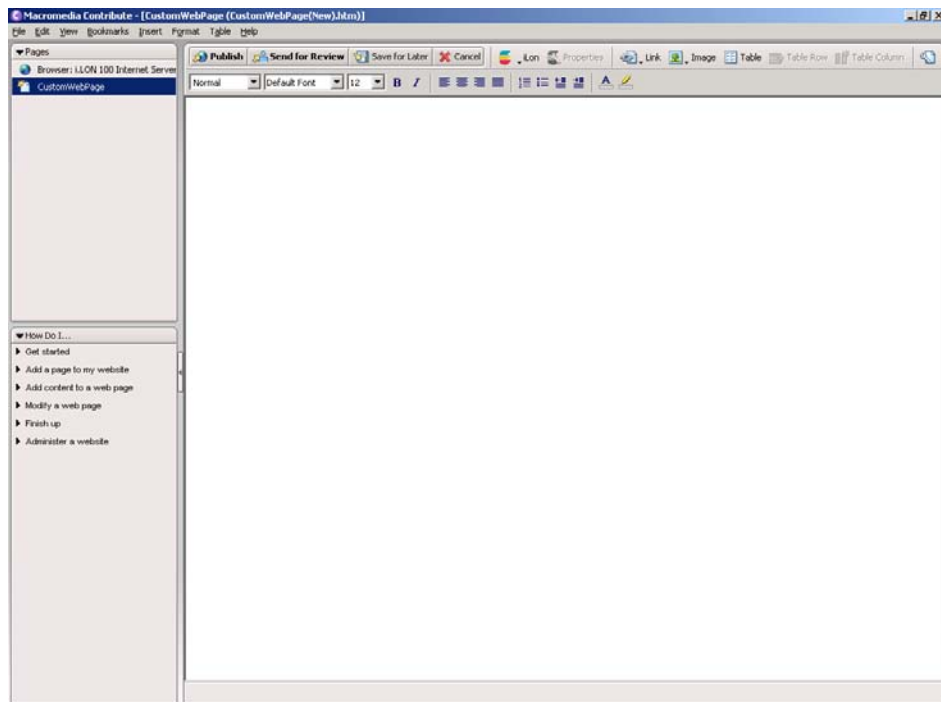

Figure 13.5 CustomWebPage.htm Web Page Window
9. Select **Blank Web Page** as the page type, enter the name **CustomWebPage** in the Page Title box, and then click **OK**. The window shown in Figure 13.5 opens.